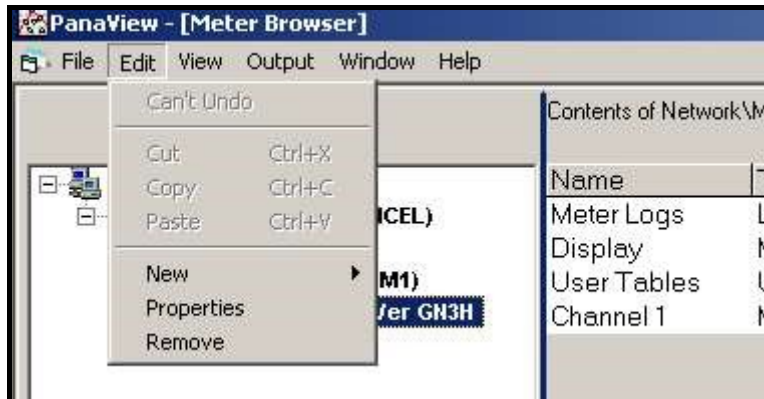

Figure C-8: Properties Option in the Edit Menu
2. Open the "Edit" menu and select the "Properties" option, as shown in Figure C-8 below.